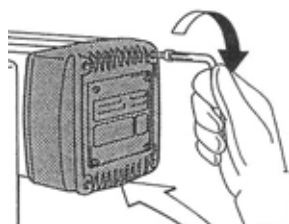

fig.106
10. Reassemble the gear reducer cover and tighten the four screws while holding the nut in place. Remove any tools used for adjustment from the hoist. (fig.106)